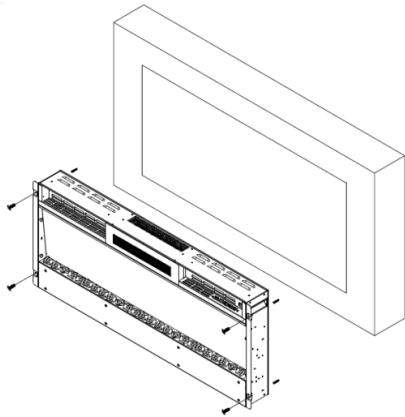

Fig.2
- For optimum viewing, mark the top four screws (fixing positions on the wall in accordance with the recommended fixing dimension; See Fig.2
- Remove four silver screws from the sides of the heater, two screws on each side. Remove two screws from the front of the heater. Remove the tempered glass by lifting it from the lugs on the sides. see Fig.2
- For optimum viewing, mark the left and right screws (fixing positions on the wall in accordance with the appliance's holes; See Fig.2